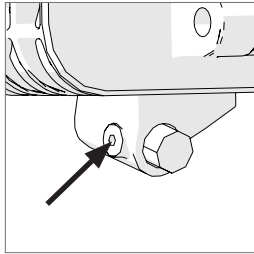

Fig. 8
- Loosen the clamping screw. **(Fig. 8)**